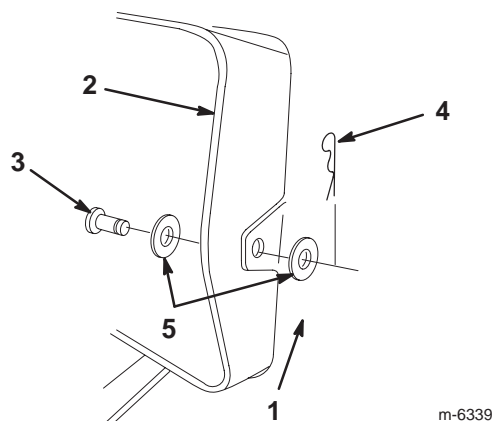

Figure 13
7. Raise the grass collector and remove the hairpin, 2 washers, and clevis pin that secure the discharge tube to the rear plate (Fig 13).
16. Raise the grass collector and install the clevis pin, 2 washers, and hairpin to secure the discharge tube to the rear plate (Fig 13).
7. Raise the grass collector and remove the hairpin and clevis pin that secure the discharge tube to the rear plate (Fig 13).
13. Raise the grass collector and install the clevis pin and hairpin to secure the discharge tube to the rear plate (Fig 13).